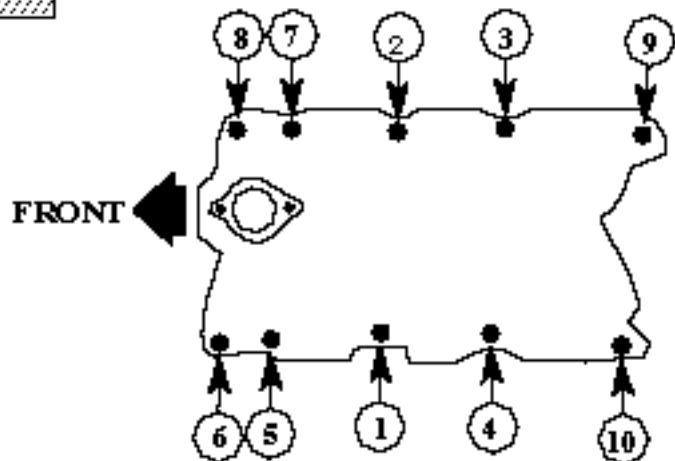

FIGURE 2
3. After setting manifold on engine and starting all bolts by hand, install water pump bolt and tighten so manifold seals against water pump. **CAUTION:** It may be necessary to shorten water pump bolt if it bottoms out before seating. Then torque all bolts circled in Figure 2 to 25 ft./lbs. See Figure 2 for proper sequence.